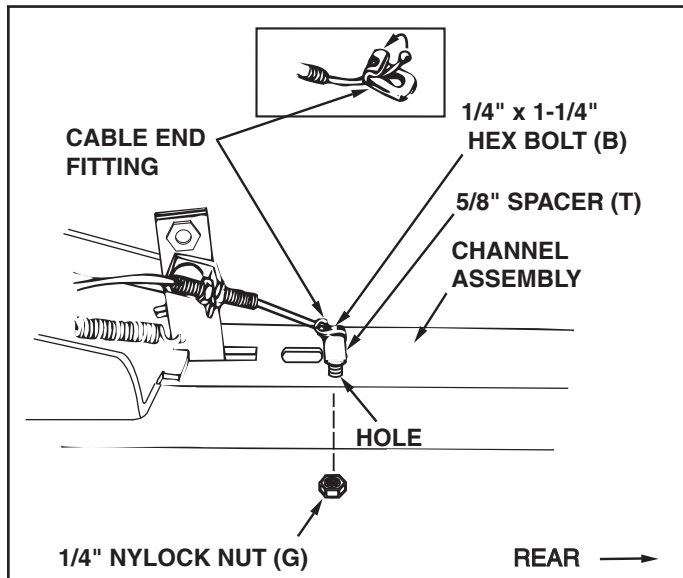

FIGURE 14 (Left Hand Side View)
- Assemble a 3/8" x 1-1/4" carriage bolt through the square hole in the cable mount bracket and through the square hole in the angle lock bars as shown. (The carriage bolts should face in opposite directions.) Using pliers hold the cable mount bracket in position, angling down towards the L.H. hole in the channel as shown. Secure with a 3/8" nylock nut. **Tighten.** Refer also to figure 14 for the correct angle for the cable mount bracket.
STEP 14: (SEE FIGURE 14)